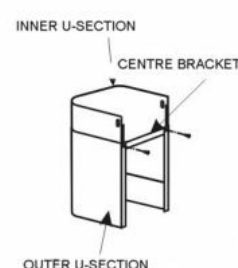
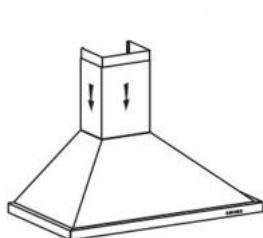

Figure 4
Figure 5
Fit the u-shaped sections together & screw the centre bracket onto the back of the outer u-shaped section using the supplied 8mm screws (this helps keep the width at the back even with the front) (see figure 4). Place the u-shaped section onto the main unit and fix in place with two (2) 8mm screws (see figure 5).
Calculate the final height of the u-shaped section and pull out the inside u-shaped section to a suitable height (see figure 5) to check. Mark the 2 sides near the top and push the inner section out of the way. Place the top bracket (slots to the bottom) centred between the 2 marks, mark the 2 screw holes. Remove the bracket and drill two (2) Ø8mm holes at the marks. Insert plastic plugs into the holes and fix the hook bracket onto the wall (slightly loose) using 40mm screws.